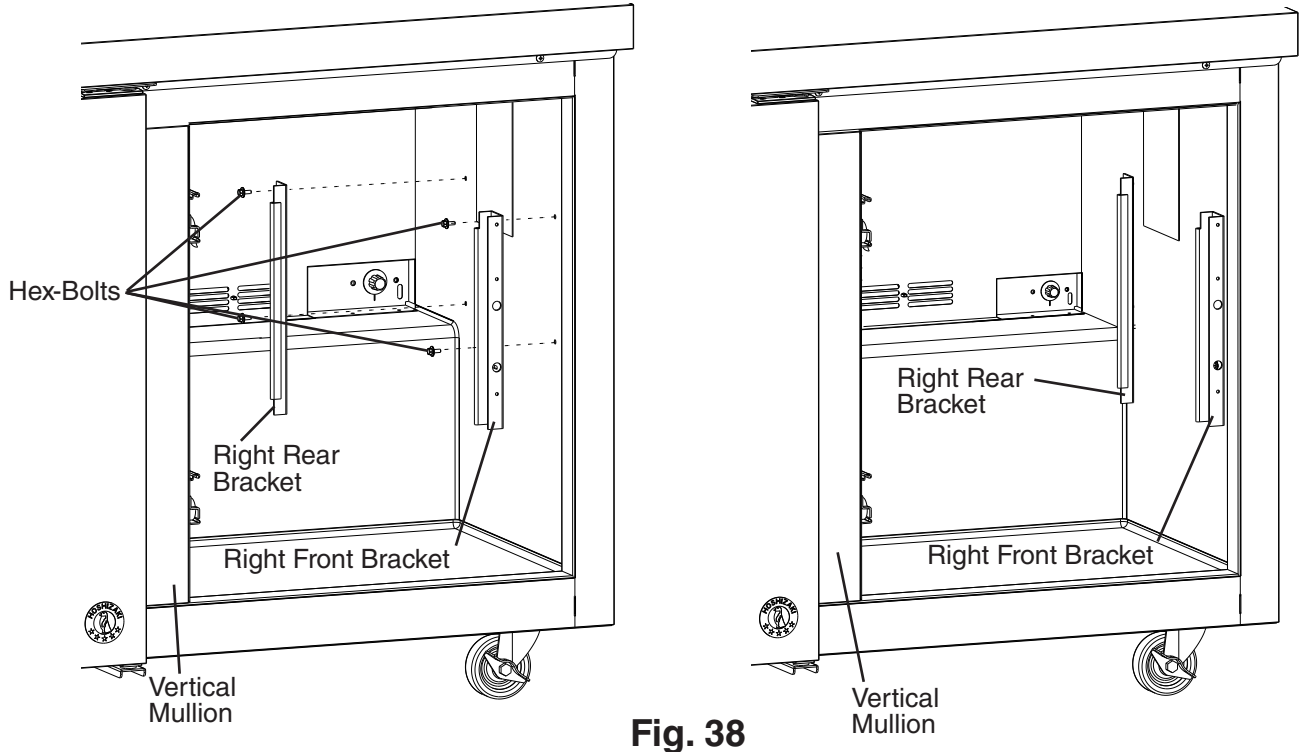

Fig. 38
- 23) Place the right rear bracket in place on the right side panel with the hex-bolts removed in step 4. Leave loose, do not tighten at this time. See Fig. 38.
- 24) Place the right front bracket in place on the right side panel with the hex-bolts removed in step 4. Leave loose, do not tighten at this time. See Fig. 38.